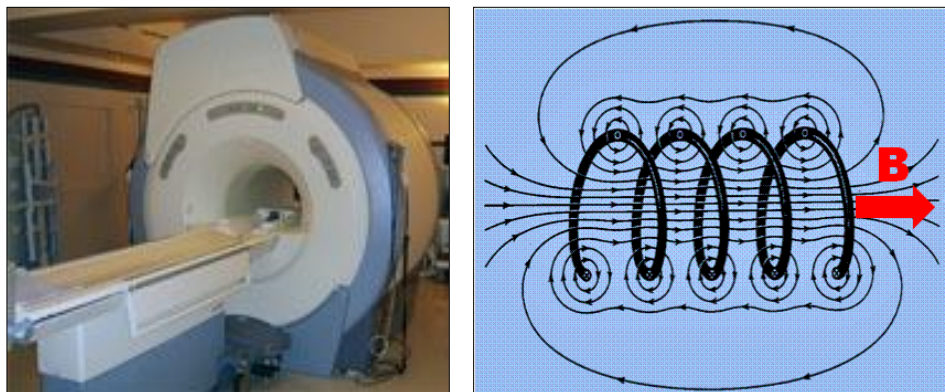

Figure 5. **Left:** superconducting scanner, **right:** Magnetic field created by solenoid
- 1- Closed-bore scanner:** Over 90% of scanners worldwide are of the closed-bore cylindrical design and generate their fields by passing a current through a solenoid kept at superconducting temperatures. The coils are immersed in liquid helium allowing a stable, homogeneous field to be created, typically 1 T and higher (figure 5).